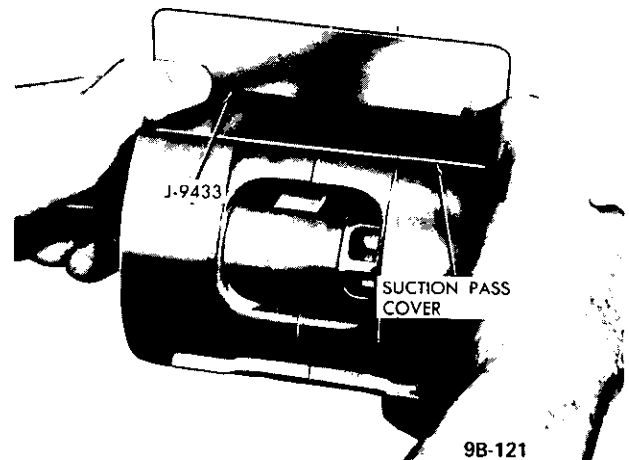

Figure 9B-151 Installing Suction Pass Cover
suction pass cover and lips of suction passage in body of cylinder assembly, and reassemble suction pass cover over suction passage (see Figure 9B-151).
8. Assemble both service replacement discharge tube "O" rings and bushings (see Figure 9B-152) onto cylinder assembly.